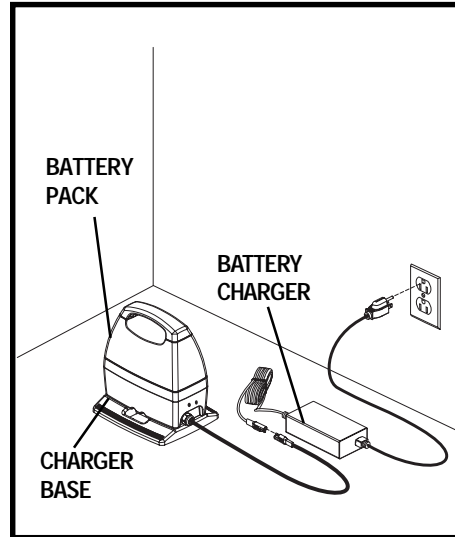

Figure 4. Battery Charging Base
2. Place the charger base near a standard electrical outlet. **See figure 4.**